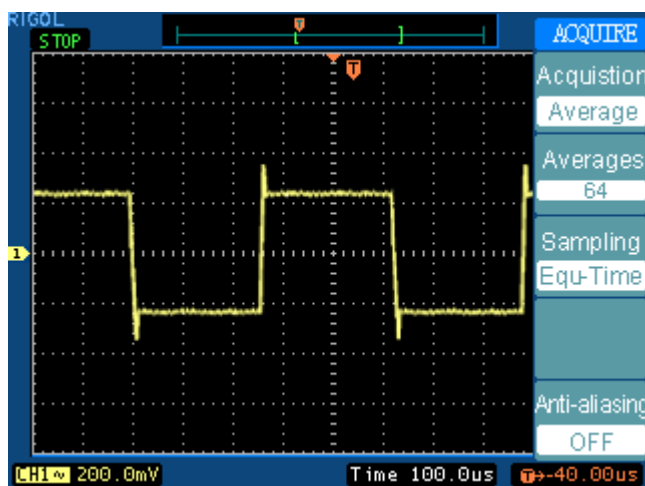

Figure 3-3
- Toggle the **Averages** soft button to select the number of averages that best eliminates the noise from the displayed waveform. The higher the number of averages is, the more noise that is removed from the display. However, the higher number of averages, the slower the displayed waveform responds to waveform changes. You need to choose between how quickly the waveform responds to changes and how much noise there is on the signal. (See Figure 3-3)